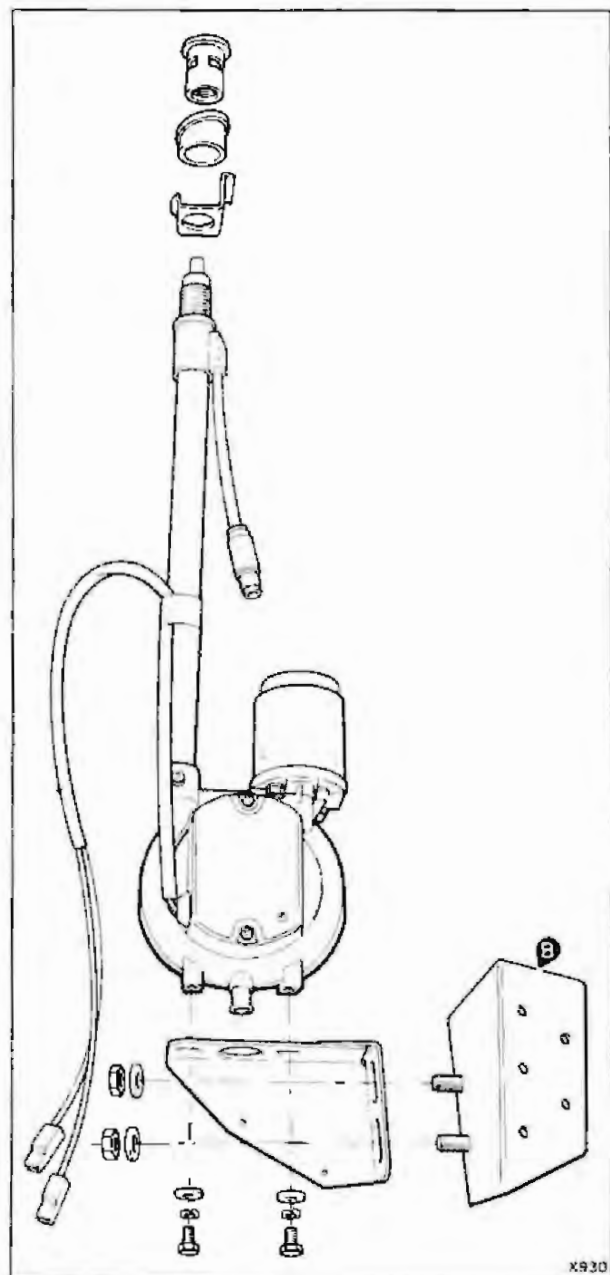

Fig.2
2. Fit the brackets supplied in the kit onto the new Merlin aerial (see fig. 2).